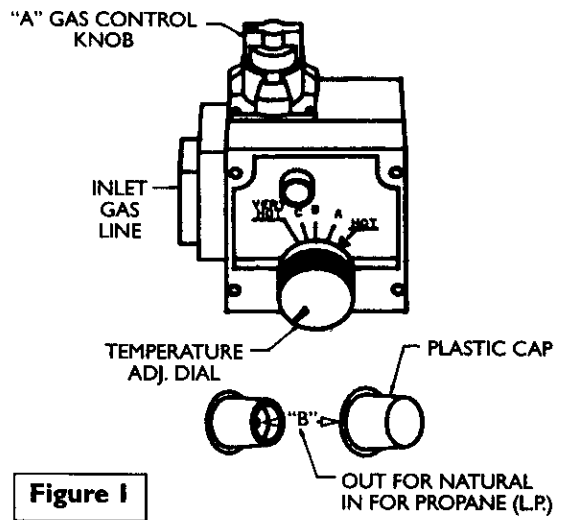

Figure 1
- Step 1. Turn gas control knob “A” to “PILOT”. Depress and turn “OFF”. (See Figure 1, page 17).
- Step 8. Place screwdriver in slot “B”. (See Figure 1, page 17). Depress and turn counter-clockwise (↶) to stop. Control screw must be in “IN” position for propane (L.P.) gas and in “OUT” position for natural gas. STOP! Read label “For Your Safety” located on your water heater.
- Step 11. Wait five (5) minutes to clear out any gas. If you then smell gas, STOP! Follow “B” in the safety information on “For Your Safety” label. If you don’t smell gas, go to the next step.
- Step 16. Make sure temperature adjustment dial is turned clockwise (↷) in its lowest position (See Figure 1, page 17).
To convert from Propane (L.P.) gas to Natural gas, follow the "Fuel" Conversion Instructions From the "Natural Gas to Propane (L.P.) Gas" section except in Step 5, use orifice "E", marked "NAT.". In Step 6 use pilot orifice "G", brass color and in Step 8 turn control screw "B" in Figure 1 clockwise (↻) to stop. Screw must be in "OUT" position for Natural gas.